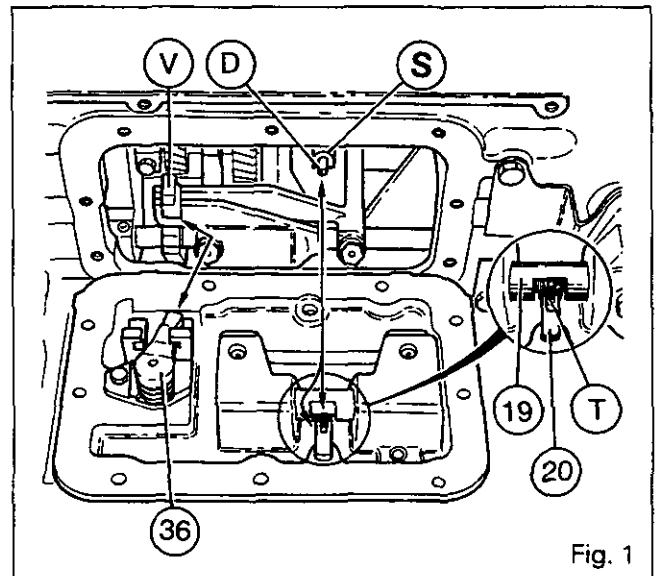
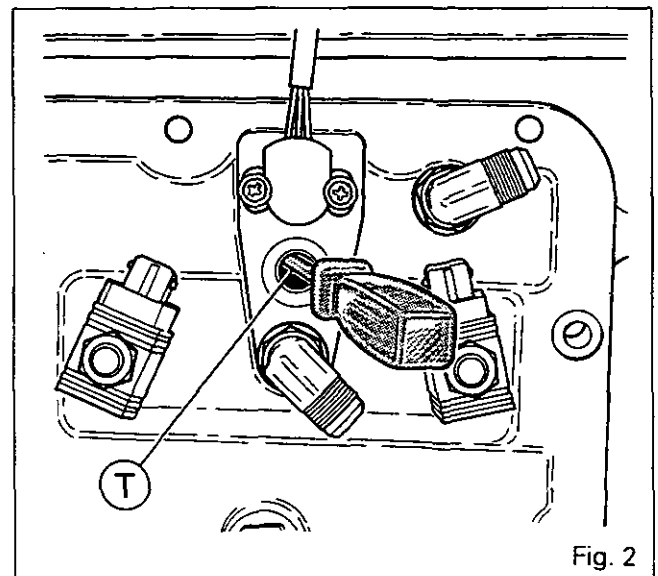

Fig. 1
Fig. 2
Note: To avoid immobilising the tractor in the event of any failure of the hydraulic system (low or no pressure) or electrical failure, the reverse shuttle can be engaged via the inspection port «T» (Fig. 2) using a screwdriver placed in the grooves on the piston (19).
8. Set the reversing selector, and the 1st-2nd and 3rd-4th gear forks to the neutral position. Move the lock «V» towards the opening of the selector cover (see Fig. 1).
10. Position the notch on the piston (19) pointing upwards and line it up with the centre of the inspection port «T». Position the finger (36) pointing to the right (Fig. 1).
12. Using a screwdriver, through the inspection port «T» (Fig. 2), position the piston in the selector «S» and align the notch in the link (20) with the finger «D» on the selector (Fig. 1). Fit the cover on the gearbox.
13. Fit the earth wire lug (24) and the creeper gearshift control support bracket (if fitted). Tighten the bolts (33) and nut (57) to a torque of 50 to 70 Nm.